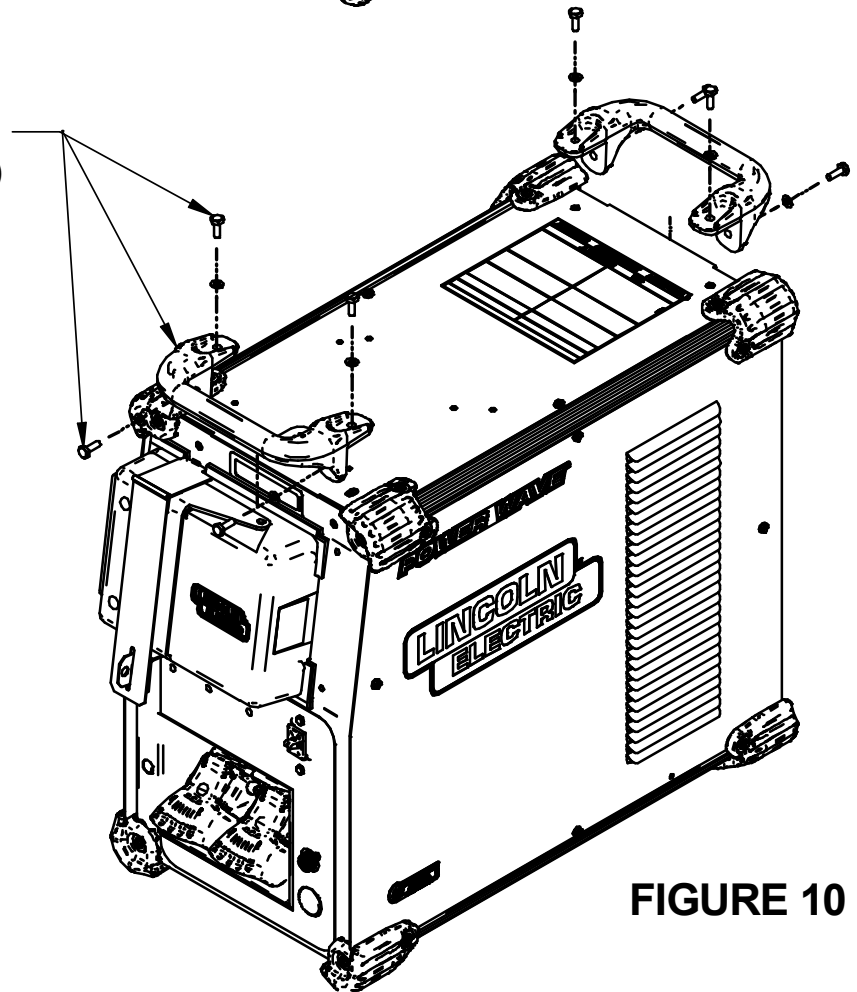

FIGURE 10
12. Install the two handles using the hardware removed from mounting the handles in step 5, using a 7/16" nut driver or other suitable tool (**Figure 10**).